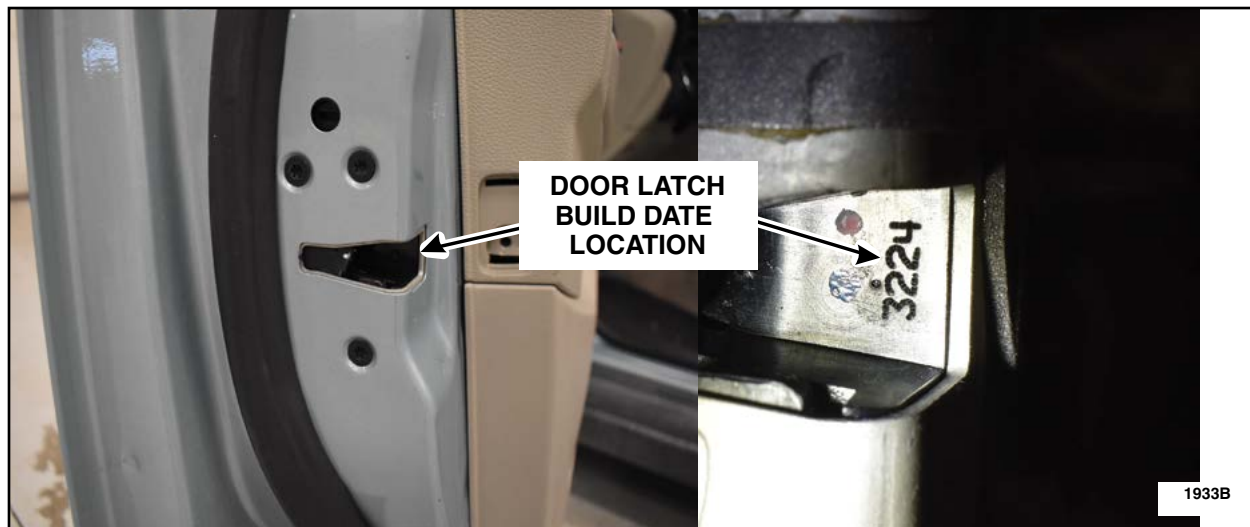

FIGURE 20
5. Once the **new** latches have been installed in the vehicle, record both date codes of the **new** latches. Additionally, capture a picture of the date code of each new door latch (two pictures total) showing them installed in the vehicle. These pictures will need to be submitted on the SSSC web questionnaire. See Figure 20.